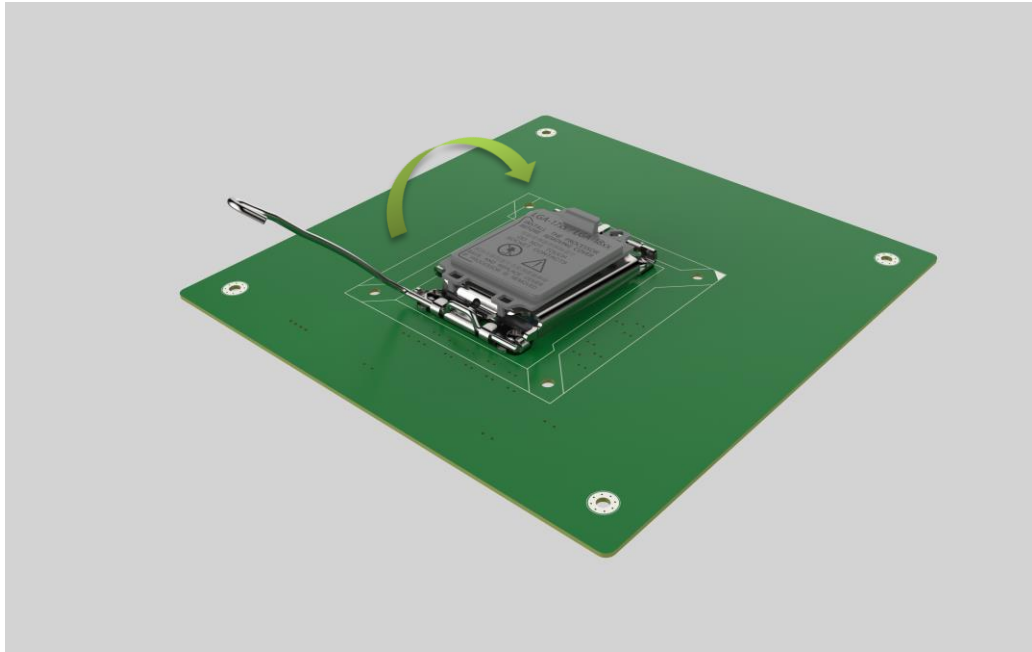

Figure 4-6: Close the Socket LGA1700
Step 8: Close the CPU socket. Close the load plate and pull the load lever back a little to have the load plate be able to secure to the knob. Engage the load lever by latching it to its original position (**Figure 4-6**). There might be some resistance, but it does not require extreme pressure.